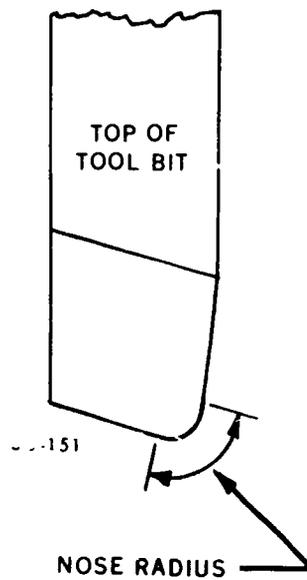
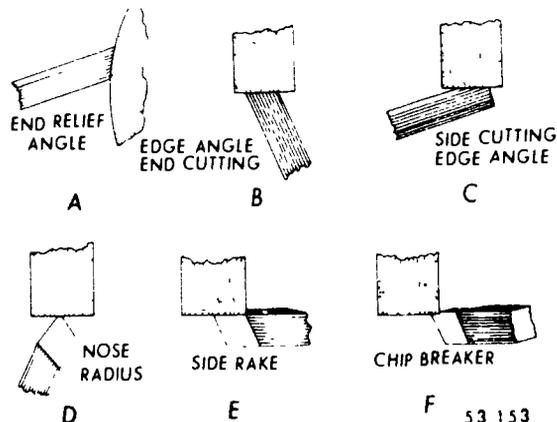
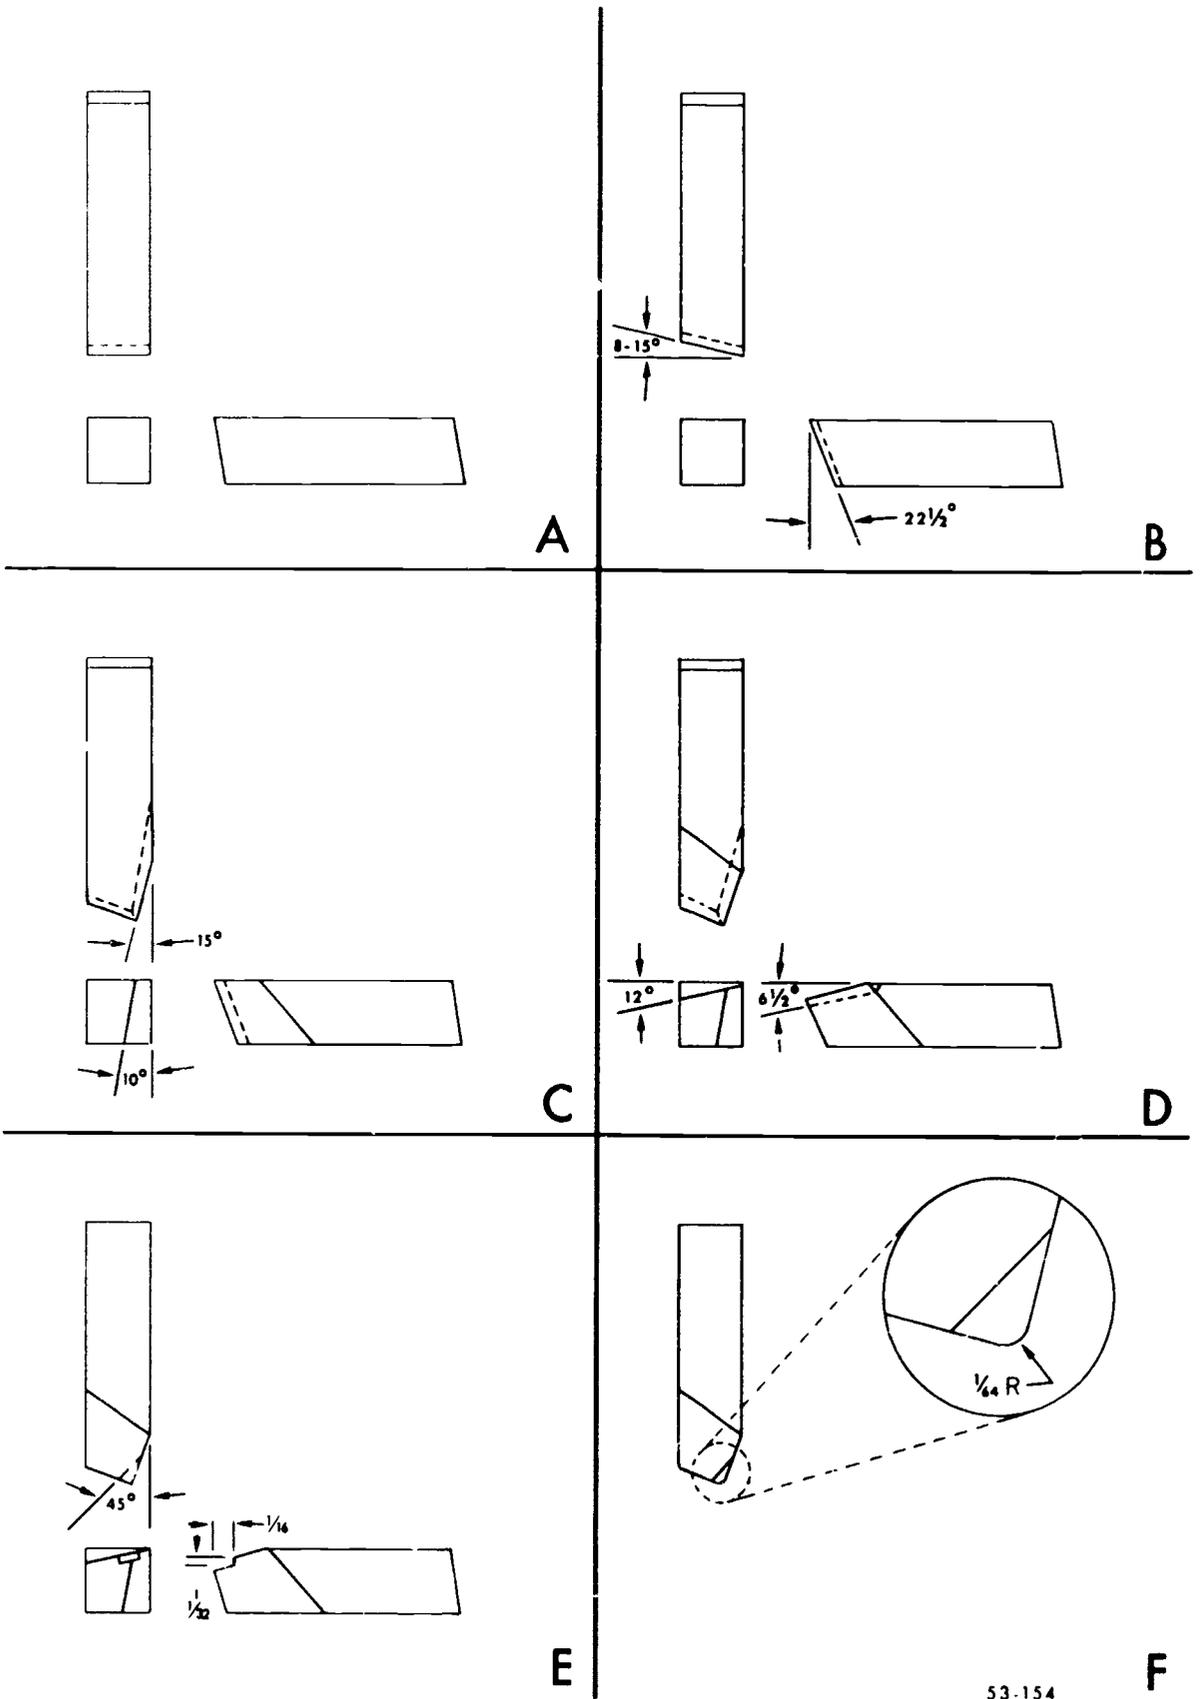

Figure 16. Nose radius.
Figure 18. Grinding a tool.
Figure 19. Development of a roughing tool.
2-12. *Nose radius.* The nose radius, as shown in figure 16, strengthens the tip of the tool, helps to radiate the heat generated by the cutting action, and helps to obtain a good finish. You will normally grind a  $\frac{1}{64}$ -inch nose radius on tools  $\frac{3}{8}$  inch square or smaller, and a  $\frac{1}{32}$ -inch radius on tools from  $\frac{3}{8}$  inch to  $1\frac{1}{4}$  inches square. Some tools, such as the side-finishing tool, require very
2-14. **Grinding Cutting Tools.** A tool must be ground to the correct angles; and it must be sharp, or it will not cut properly. Use a protractor head and blade to check the tool angles as the grinding progresses. The following example will help you understand how the various angles are ground. Although the tool we are using for this example is a right-hand roughing tool for high-carbon steel, you can apply the information to nearly any type of tool. We will be referring to figures 18 and 19 frequently during the grinding of the tool.
- Tool blank, as shown in figure 19,A.
(2) True and dress the grinding wheel, if necessary, and reposition the tool rest.
(3) Position the tool, as shown in figure 18,A and B, and grind the end relief and end cutting edge angles.
The tool should look like the one shown in figure 19,B, after you have ground the end relief and end cutting edge angles.
Position the tool as shown in figure 18,C, at the recommended  $15^\circ$  angle and tilt the tool forward  $10^\circ$  in order to obtain the desired angles. The lower edge of the tool will contact the grinding wheel first when the tool is positioned correctly. Grind the side cutting edge and relief angles until the cutting edge is the length you want.
Stop frequently and check the surface you are grinding to insure that the angles are correct. The tool should look like the one shown in figure 19,C, at this point.
Position the tool as shown in figure 18,E. Pull the right-hand end of the tool toward you  $6\frac{1}{2}^\circ$  to provide the negative back rake angle. Tilt the top of the tool toward you to obtain the  $12^\circ$  side rake angle and lower the right-hand end of the tool until the cutting edge of the tool bit is horizontal. When the tool is positioned properly, press it straight into the grinding wheel. Stop and measure the rake angles frequently to insure that you are grinding them correctly. Grind the rake angles until the surface that produces them joins the surface that forms the side relief and side cutting edge angles. When you have completed grinding the rake angles, the tool should look like the one shown in figure 19,D.
Position the tool so that the back edge of the chip breaker is at an angle of approximately  $45^\circ$  to the cutting edge of the tool and the bottom surface of the chip breaker is parallel to the surface that formed the rake angles. Press the tool into the grinding wheel, as shown in figure 18,F. The chip breaker should be about 1/16 inch wide and 1/64 inch to 1/16 inch deep.
The tool should look like the one in figure 19,E, after you have ground the chip breaker.
(7) Grind the nose radius. Position the tool so that the entire edge that is formed by the intersection of the side relief and side cutting edge surface lightly contacts the surface of the grinding wheel, as shown in figure 18,D. Grind the radius by swinging the tool in a slight arc. The edge contacting the surface of the wheel should be the pivot point for the arc. Allow the radius that forms to blend smoothly into the end and side surfaces of the tool, as shown in figure 16. Check the nose radius with the 1/64-inch radius gage.
When the nose radius is correctly ground, the tool looks like the one in figure 19,F.